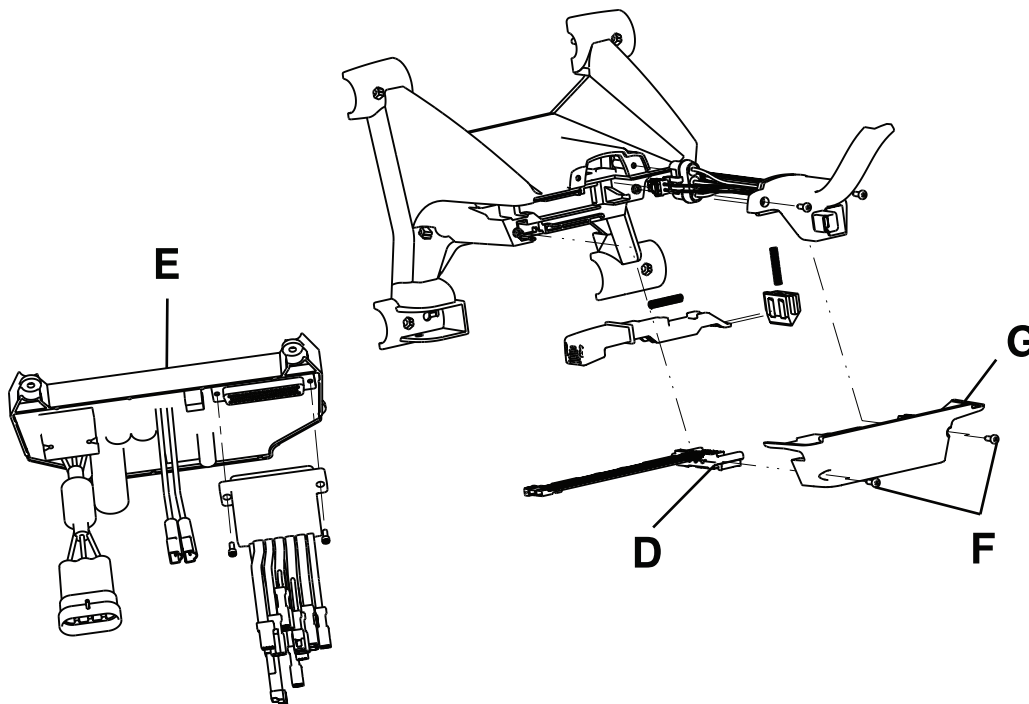

Figure 18: Control board and cot connector cable assembly
6. Unplug the black and red wires that connect the cot connector cable assembly (D) to the control board (E). (Figure 18 on page 45).
7. Using a T20 Torx driver, remove the two delta screws (F) from the bottom plate of the foot end enclosure (G) to remove the enclosure. (Figure 18 on page 45). Save all parts for reinstallation.